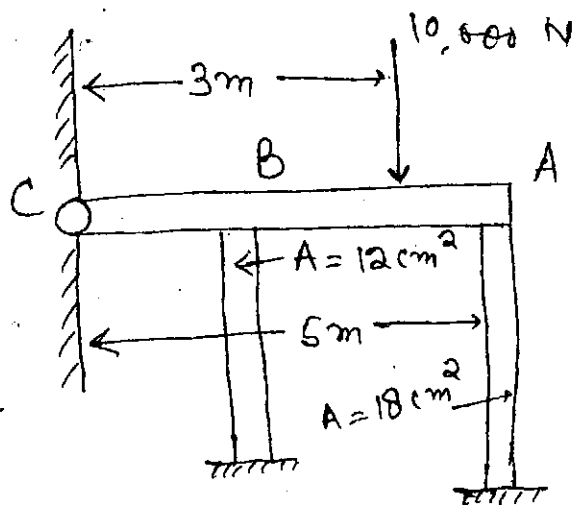

Fig. 2
2. (a) A rigid beam is hinged to a wall at C and supported on two vertical props A and B equal in height. A is 5 metres from the hinge C and B is 2 metres from the hinge. Area of A is 1800 sqmm and area of B is 1200 sqmm. Modulus of elasticity of A is 0.100 MN/mm^2 and of B is 0.2 MN/mm^2 . Find the loads on props A and B if a load of 10000 N is placed on beam at 3 metres from hinge. Look fig. 2. 10